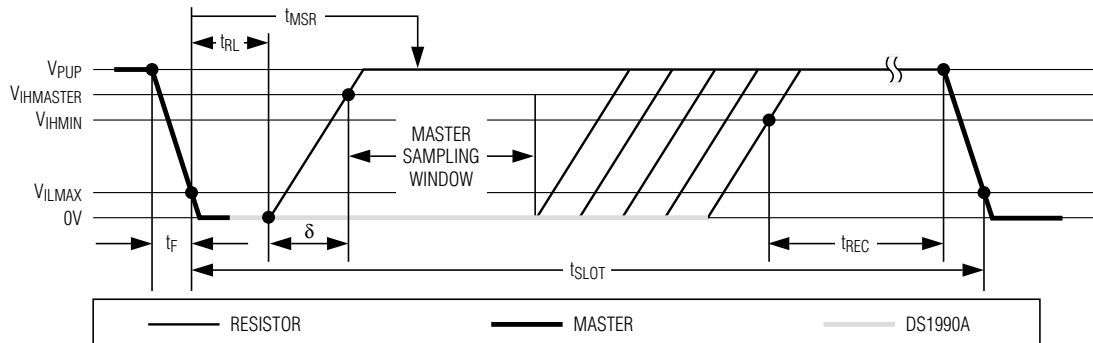

Figure 7. Read/Write Timing Diagram
- Note 14:** ϵ in Figure 7 represents the time required for the pullup circuitry to pull the voltage on IO up from V_{IL} to V_{IH} . The actual maximum duration for the master to pull the line low is $t_{W1LMAX} + t_F - \epsilon$ and $t_{W0LMAX} + t_F - \epsilon$, respectively.
- Note 15:** δ in Figure 7 represents the time required for the pullup circuitry to pull the voltage on IO up from V_{IL} to the input-high threshold of the bus master. The actual maximum duration for the master to pull the line low is $t_{RLMAX} + t_F$.